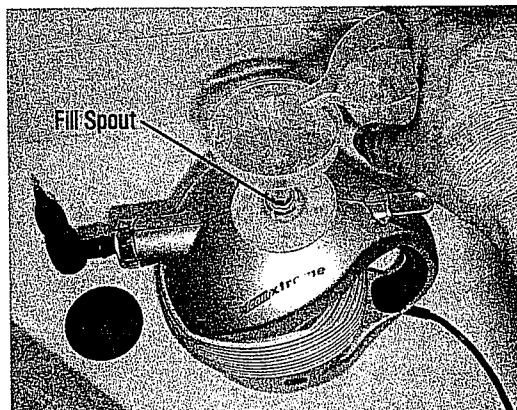

Figure 2
5. Fill the Measuring Cup (included) with water to the marked water line. Use the Funnel (included) to pour 2 Measuring Cups of clean water through the Fill Spout into the Water Tank. (See Figure 2.)